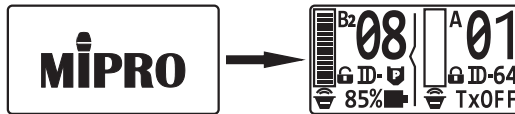

Fig. 8
2. Receiver Home Screen status once powered on. Fig. 8: